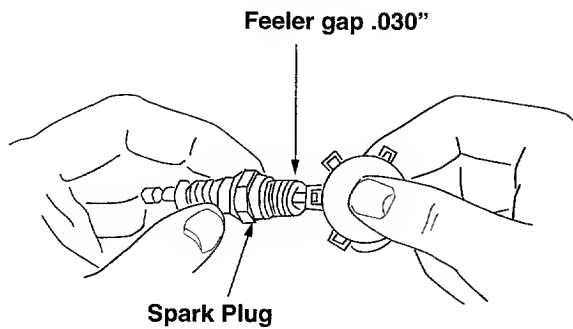

Figure 11
- Clean spark plug and reset gap to .030" at least once a season or every 50 hours of operation. See Figure 11. Spark plug replacement is recommended at the start of each season. Refer to engine parts list for correct spark plug type.